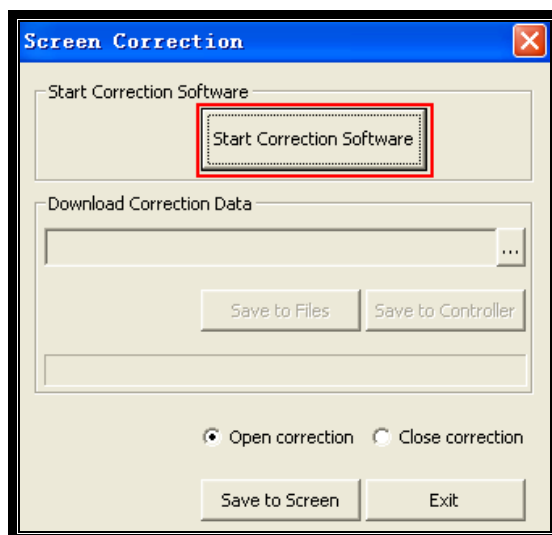
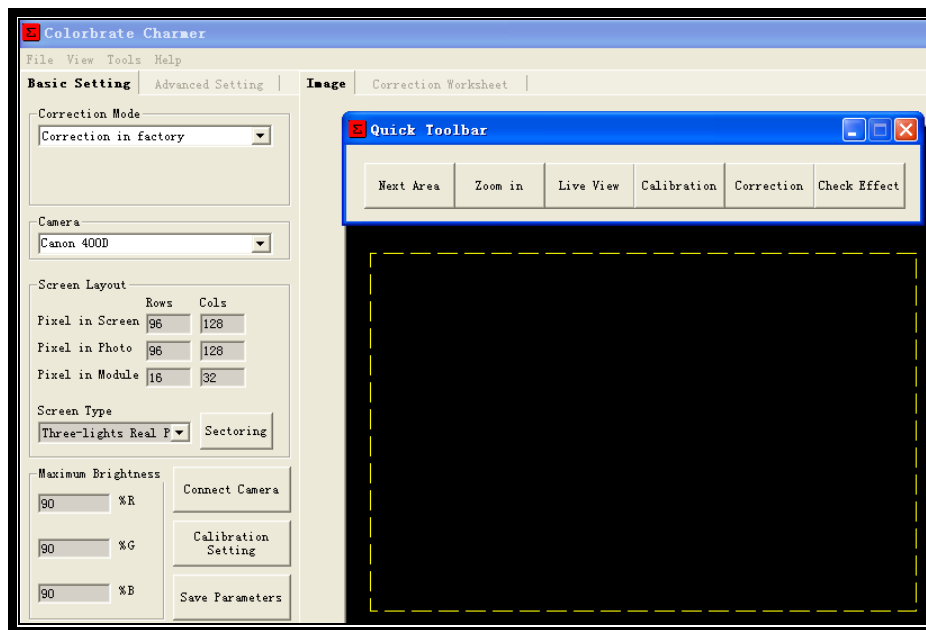

Fig. 3-4
Fig. 3-5
Step5: In the window of “Start Correction” shown as Fig. 3-4, click the "Start Correction Software" button, a window with the title of “Σ Colorbrate Charmer” for correction software tool will soon pop up, shown as Fig.3-5.